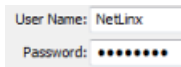

FIG. 22 Serial Connection option - Username and Password
6. Enter a valid *Username* and *Password* if the target Master is secured (FIG. 22):